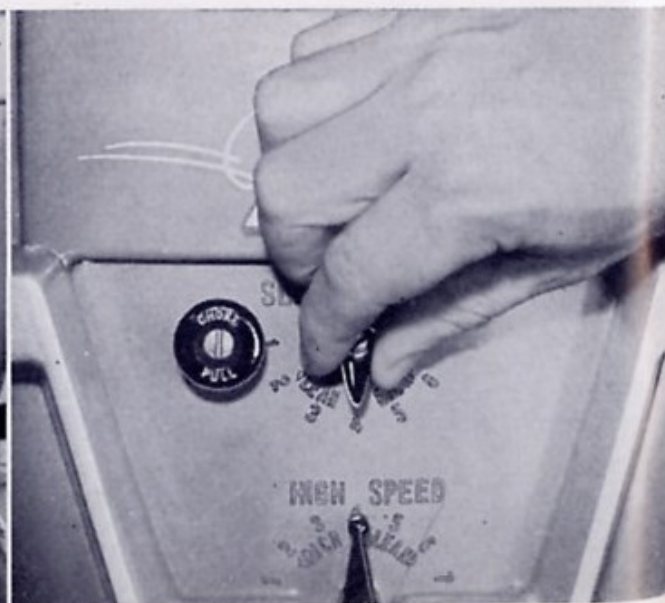

Figure 14
9. To retard motor speed, turn speed control grip toward position “slow.” Adjust slow speed needle dial (Fig. 14) in slow position, by turning to right or left as required.
Loosen center screw to properly arrange lever, without disturbing position of the slow speed needle (this is IMPORTANT). Should lever tend towards binding on the needle shaft, it may become necessary to pull it free entirely to permit rearranging its position without affecting adjustment of the needle at this time. Arrange lever to position Number 4 on panel—see Fig. 14. Push lever back onto the shaft so that the face of the lever is flush with the end of the needle shaft. This will permit lever to engage limitation stop